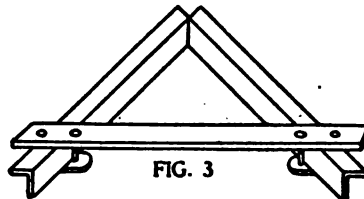

FIG. 3
corner of the inside flange to a square point if so desired. Another method of making frames of angle iron is by dovetailing and brazing the corners. This method is usually adopted in the making of casements, and casement frames, sash and skylight frames and similar work. Notes on the foregoing: (1) If the glut is made on a light porter bar a better welding heat can be obtained, and ensures a sound weld being made. (2) If a frame is being made with more than one corner, bend all the corners and weld up the ends of the inside flange to the size required before welding in any of the gluts. Should the frame lengthen a little when welding in the gluts, it can be brought to the right size by working up the rounded corner square, as before mentioned. (3) If only one corner has to be made, a bar should be fixed across so that the corner can be kept in position whilst the glut is being welded in (see Fig. 3).